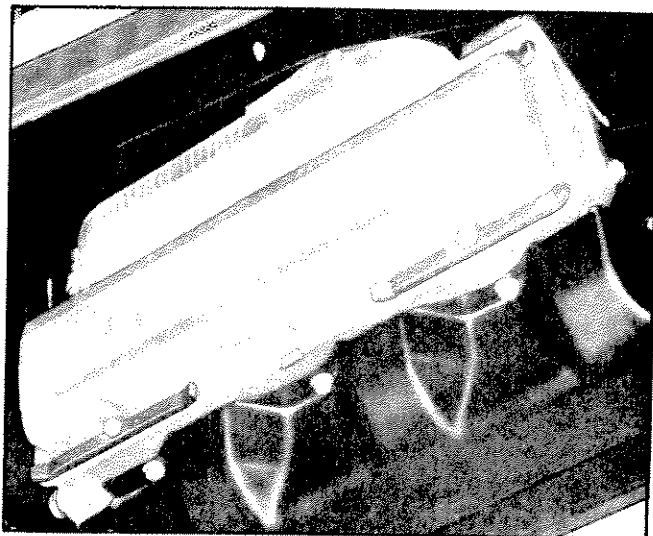

Fig. 36—Rocker Arm Cover Installed
10. Using new gaskets, install the valve rocker covers and torque to specifications (fig. 36).